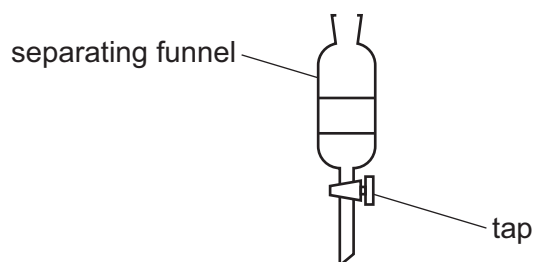

Fig. 1.2
- (h) The separating funnel used in steps 6 and 7 is shown in Fig. 1.2. The final product, 1-phenylethanol, is in the ethoxyethane layer.